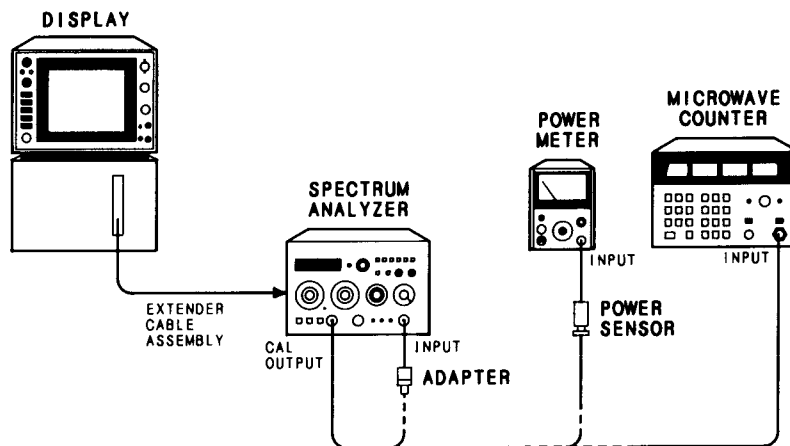

FIGURE 5-20. CAL OUTPUT AND REF LEVEL CAL ADJUSTMENTS TEST SETUP
2. Connect power meter/power sensor to front-panel CAL OUTPUT connector as shown in Figure 5-20.